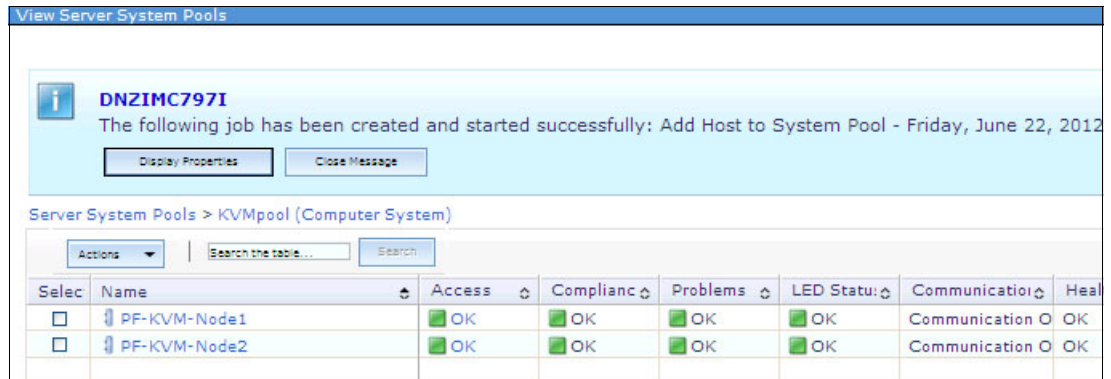

Figure 9-109 Display job properties
6. Click **Display Properties** as shown in Figure 9-109.